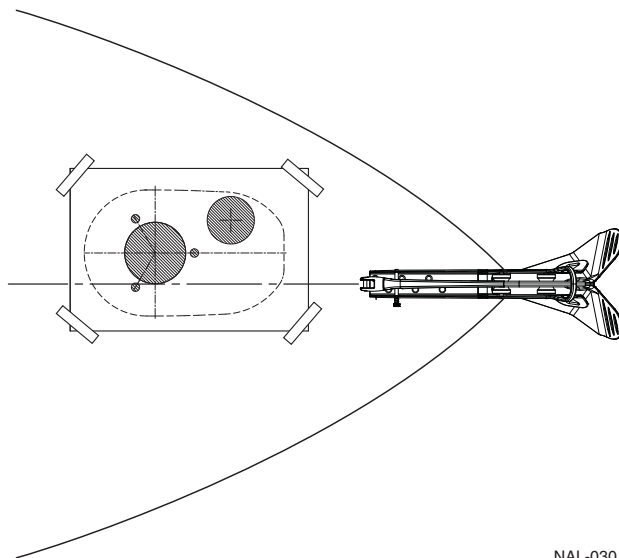

Figure 4-3
- ◆ Alignment of the windlass chain/rope rode centerline of the gypsy with the anchor roller (**Figure 4-3**)